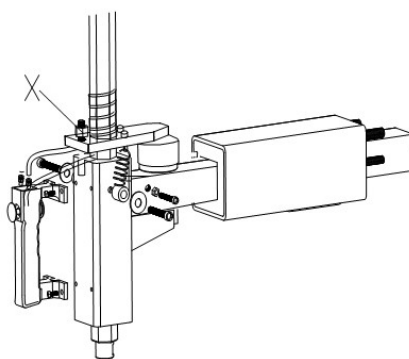

Fig 22
**Note:** If Vertical Arm not be locked or not meet the requirement that 2-3mm from the bottom of Mounting head/demounting head to rim, please adjust Hexagonal Locking Plate, refer to Fig 22 and adjust the (X).